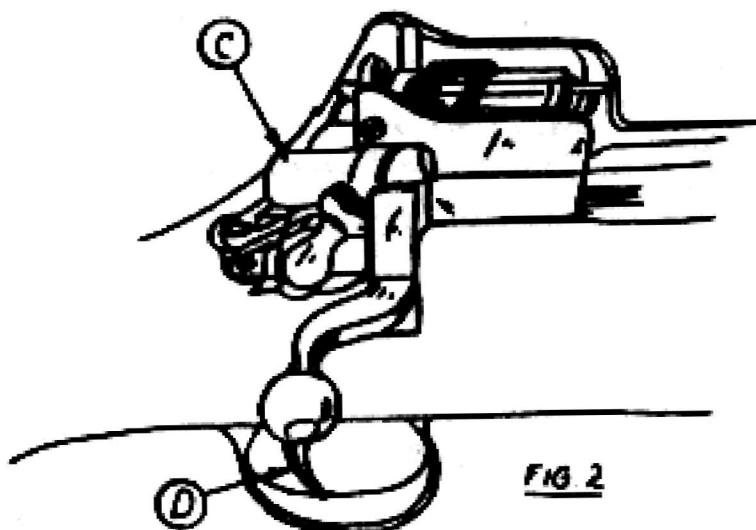

FIG. 2
③③ PRESS DOWN ON MAGAZINE FOLLOWER ① WITH THUMB, AS SHOWN, AND CLOSE THE BOLT ⑧.
③④ WHEN BOLT ⑧ CLOSES, IT WILL AUTOMATICALLY COCK, AS SHOWN BY THE POSITION OF THE COCKING PIECE ②, IN FIG. 2. PULL TRIGGER ③ TO FIRE.
TARGET THE GUN FROM THE SHOULDER. ADJUST SIGHT AT ④, FIG 1, TO 200 YDS. AIM GUN AT NUMBER 4 ON TARGET ② 100 FT. AWAY. BULLET SHOULD ENTER BULL'S EYE. IF BULLET GOES ABOVE OR BELOW BULL'S EYE, MAKE THE NECESSARY ADJUSTMENTS BY CHANGING THICKNESS OF SIGHT BLADE ③, FIG 2.